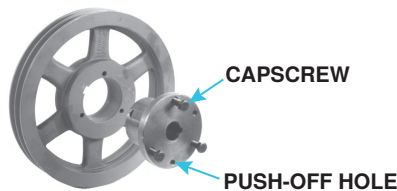

Figure 37. Split Taper Bushing
- Note that there are three capscrews in bushing and two holes without screws called push-off holes (see Figure 37). Remove three capscrews.